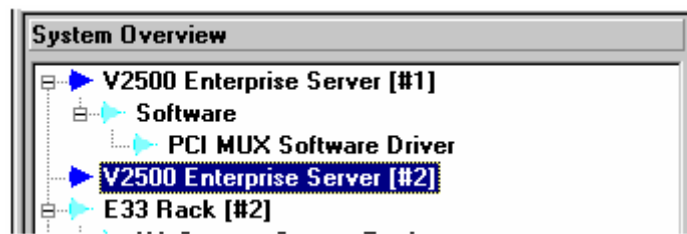

Figure 6: Multi-edit capability for identical SPUs
**Note:** The arrows to the left of the label caption for each of the SPUs will be a dark blue color, but only the second SPU selected will have its label caption highlighted as shown in Figure 6 below.